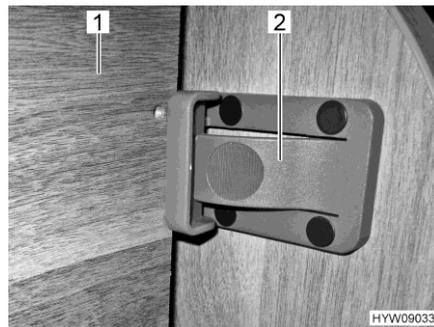

Fig. 62 Securing, front
- Lift bed (Fig. 62,1).
- Use the latch (Fig. 62,2) to secure the bed on the furniture wall.
- Press the latch (Fig. 62,2).